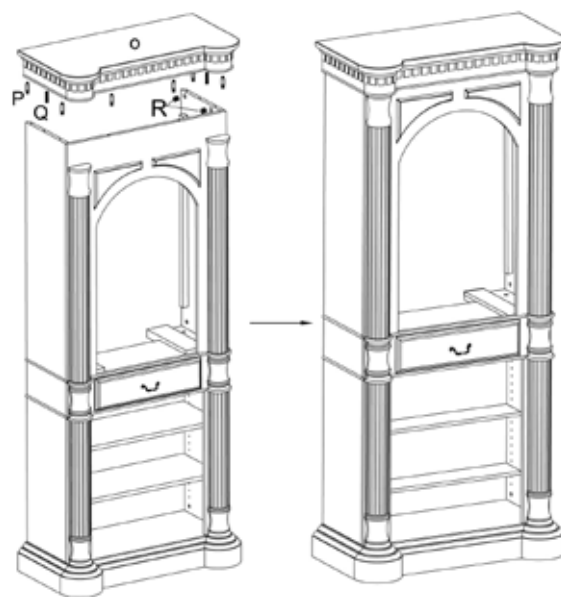

Figure 7
6. Place 2 WOOD DOWELS (Q) and screw 6 CAM DOWELS (P) into the TOP (O) as shown in Figure 7. Insert 6 CAM LOCKS (R) into the mating holes in the assembled part finished in Step 5 with triangle arrow pointing towards the hole in the edge. Mate the BASE with WOOD DOWELS (Q) and CAM DOWELS (P) in TOP (O) and twist CAM LOCKS (R) clockwise with a screwdriver to tighten the TOP (O) to the pre-assembled part in Step 5.